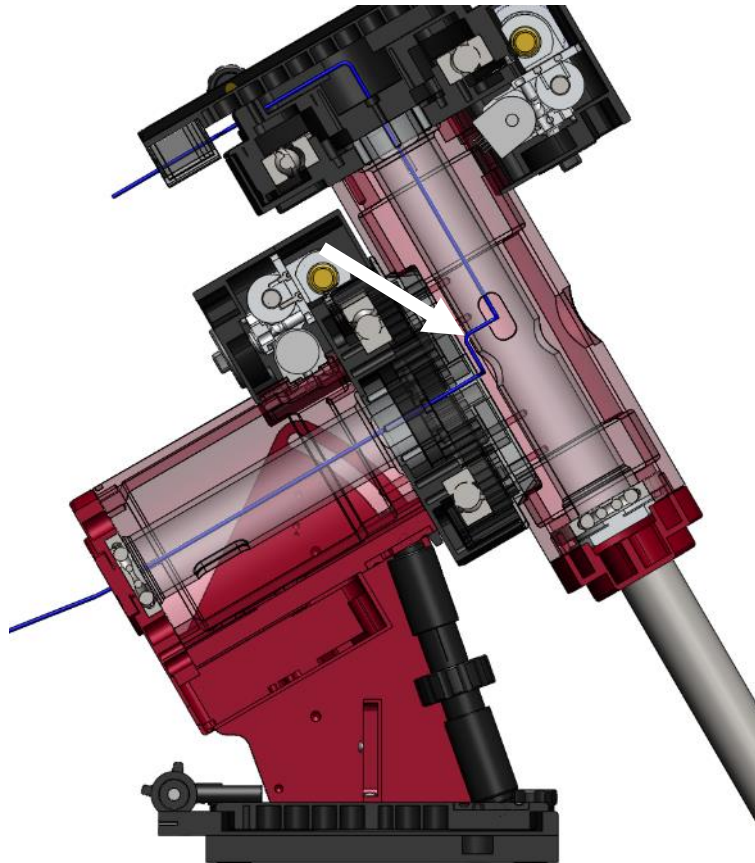

Figure 6: Paramount MX cross section showing path of cable through the mount.
4. Looking down the polar axis through the declination cable conduit access hole, rotate the declination axis from hard stop to hard stop. Doing so reveals two sets of access holes machined into the internal shaft. When aligned with the polar axis, the two larger holes allow light to pass through the mount for polar scope alignment. The two smaller holes (slightly further "up" the shaft) provide a separate passage for the through the mount cabling. Your goal is to snake the cable through one of the two smaller holes (see green arrow in Figure 6).